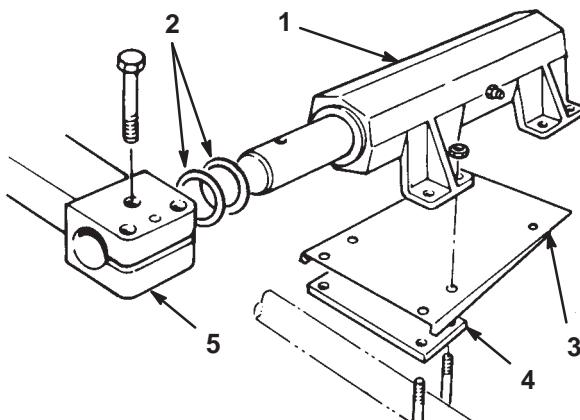

Figure 5
Mount a Fixed Head Kit Assembly (Fig. 5) to each cutting unit with a cover plate, attitude adjustment plate, U-bolts, lockwashers and nuts supplied with kits. Male end of floatation assembly to be positioned forward. Tighten U-bolts evenly.
1. Remove three metric bolts from each of the lift arms (Fig. 5).
- Reinstall 3 lift arm bolts but do not tighten (Fig. 5).